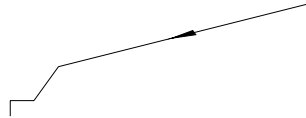

Fig. 4-8b G33 execution path 2
- ① Check the spindle speed, count the reference speed of thread machining according to the speed and the lead P. When the counted result exceeds P113(max. cutting feedrate), the system alarms. Before it, the user must confirm the spindle speed is stable; otherwise, there may be confused machining tooth.
- ② Check one-turn signal of coder from the initial angle; Z raises speed from the current position A(G33 starting point), which makes the traverse speed reach the reference speed, at the moment, Z moves to B; the lead of AB section maybe be not standard (in the actual machining, the front of AB section must reserve a empty block which does not touch the workpiece), the higher the reference speed is, the longer AB section is.
- ③ The system follows the spindle speed from B to execute the cutting to C; the cutting speed changes when the spindle speed changes; the lead of BC section is standard.
- ④ Z reduces speed from C till D position Z(W); CD lead maybe be not standard, CD length is equal to AB(when the reference speed is lower than the initial speed, the system does not execute raising/reducing speed, the lengths of CD and AB are 0); so X should execute the thread run-out in advance when the end of thread has no the thread run-out groove.
- ① Z movement is the same with the above; X executes the thread run-out in advance according to the different position of H; X thread run-out speed is based on G00 speed with the raising speed, constant speed and reducing speed; the bigger X distance I is, the better the result is. The speed should be more than 40mm when the conditions are permitted.
- ② When H=1, and Z moves to the reducing speed point C, X executes the thread run-out in advance, which is not limited by K; it finally moves to E.
- ③ H=0 and Z move the distance which leaves the distance K(K point) to the end point D, X executes the thread run-out in advance. When K is big, the system executes the thread run-out in the middle of BC section, The path is as Fig. 4-8b; when K is small, the system executes the thread run-out in the middle of CD section.